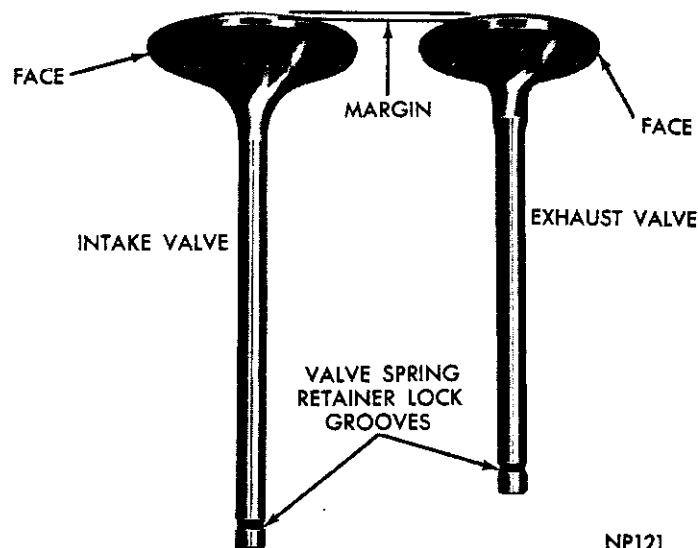

Fig. 12—Intake and Exhaust Valves
(1) The intake and exhaust valve seats and valve faces have a 45 degree angle.
(2) Inspect the remaining margin after the valves are refaced (Fig. 12). Valves with less than 3/64 inch margin should be discarded.
(3) When refacing valve seats, it is important that the correct size valve guide pilot be used for reseating stones. A true and complete surface must be obtained.
(4) Measure the concentricity of valve seat using dial indicator No. 13725. Total runout should not exceed .002 inch (total indicator reading).
(5) Inspect valve seat with Prussian Blue to determine where the valve contacts the seat. To do this,